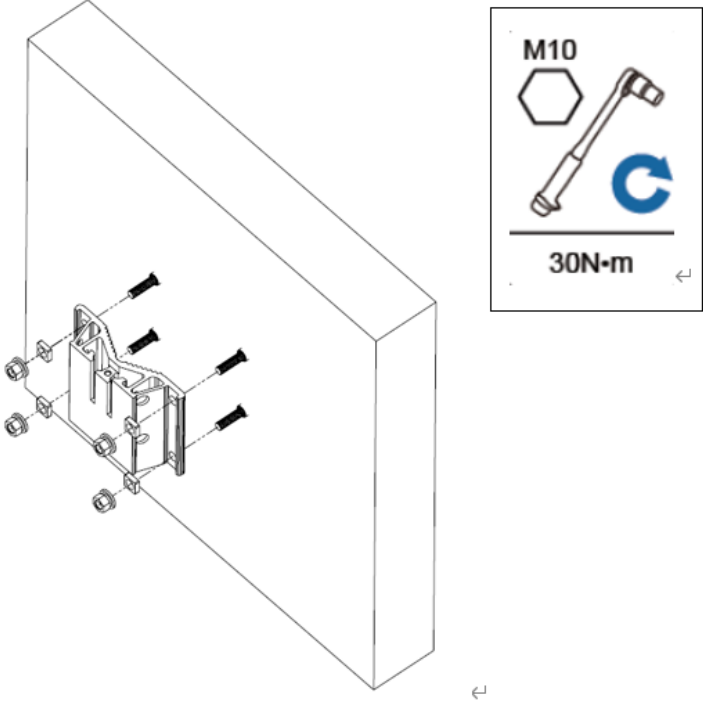

Figure 3-12 Installing the installation bracket on the anchor bolts
(1) M10×100 bolt (2) Nut (3) Spring washer (4) Flat washer (5) Expansion sleeve
Step 4: Install the installation bracket on the expansion anchor bolts, place the flat washers, spring washers, and nuts through the expansion anchor bolts and then use a torque socket to tighten the nuts, as shown in **Figure 3-12**.